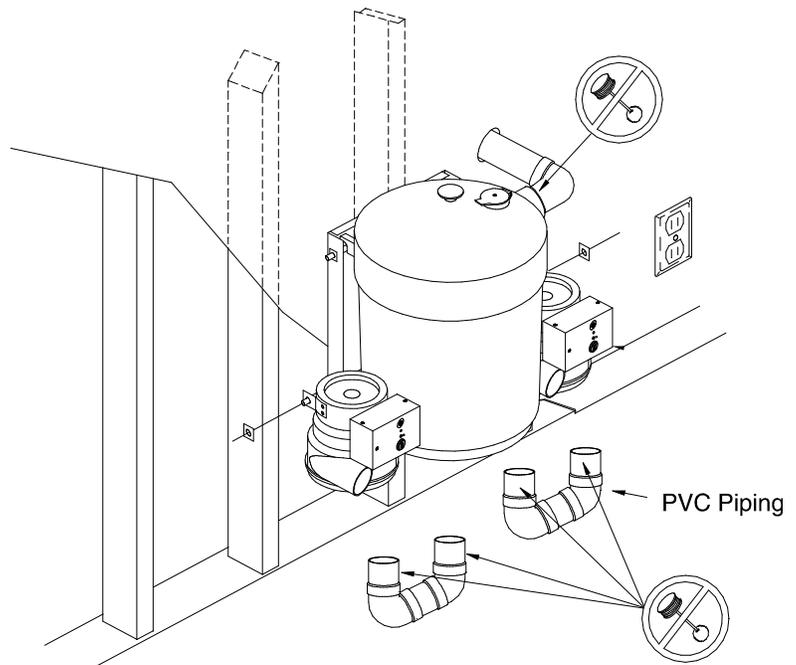

Figure 4
9. Slide on the power unit(s), and place a tinnerman nut on each end of the power unit hanger rod . (Figure 4)
A street ell (in & out) is fitted to the canister inlet. A street ell is fitted to the inlet of the power unit. (Figure 4)
11. Pipe the inlet pipe to the canister. Do not glue the fittings or pipe to the canister. (Figure 4)